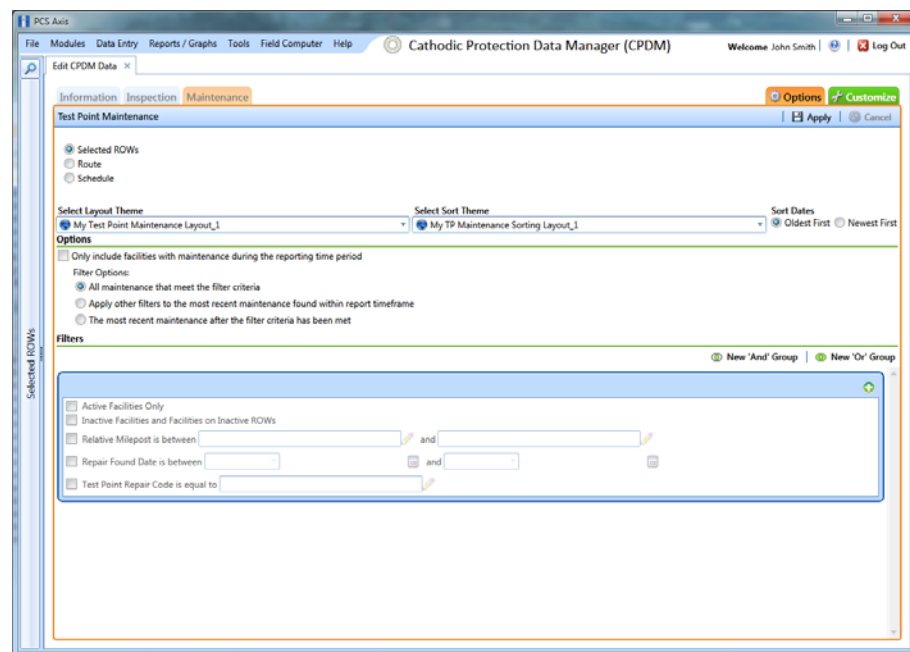

Figure 6-36. Options/Maintenance Grid
- 3 Click the **Options** tab **Options** to open the *Options* page (Figure 6-36).